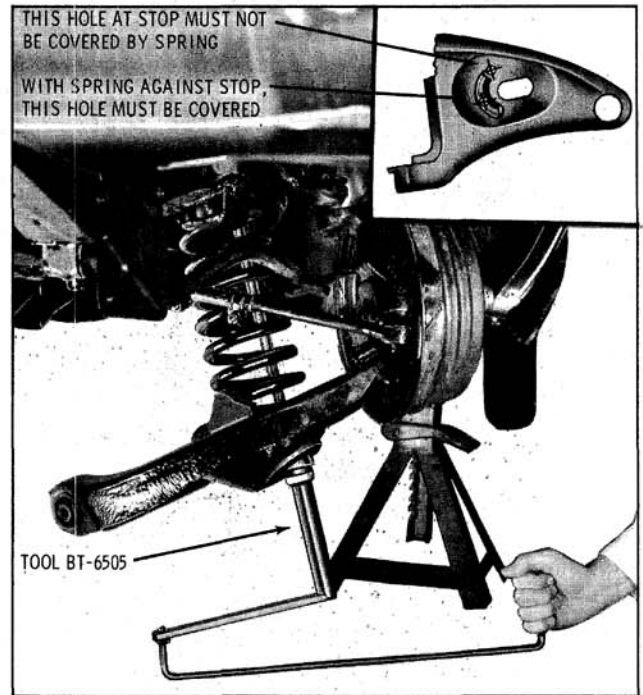

Fig. 9-112 Front Spring
5. Install Tool BT-6505 as shown in Fig. 9-112 and compress spring slightly to permit removal of lower control arm inner bushing bolts. Leave ball joints connected to steering knuckle.
1. Position spring against pilot in frame and in lower control arm. (Fig. 9-112)